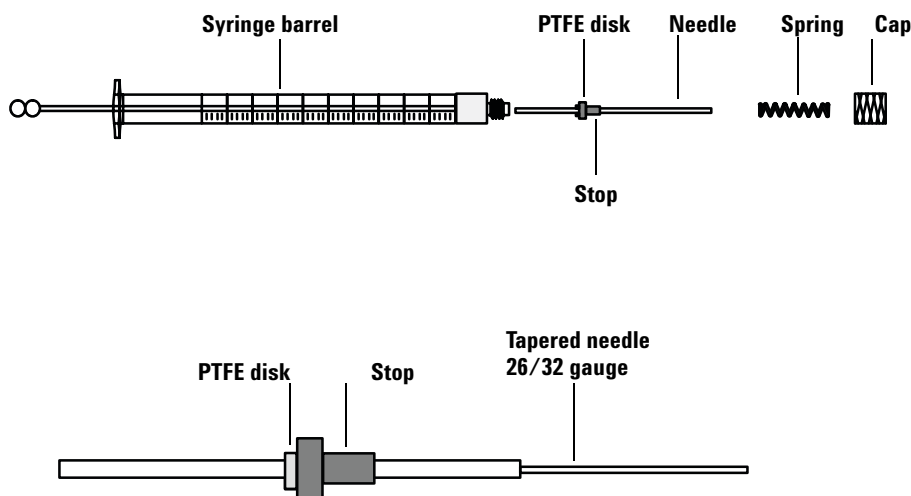

Figure 9 Installing a needle
- 1 Unscrew the syringe barrel cap and remove the spring (Figure 9).